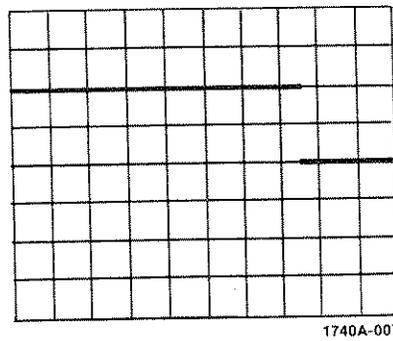

Figure 6b. Delayed Sweep Display
4. Press DLY'D **46** and note the intensified portion of the trace is now displayed across the entire CRT (see figure 6b).